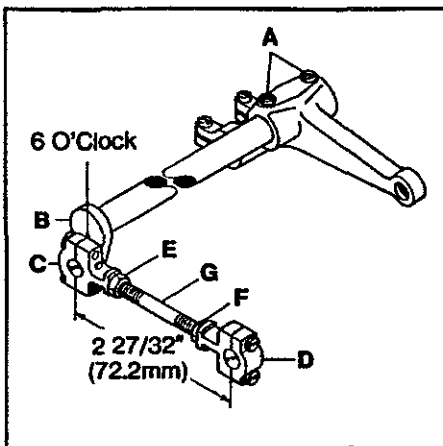

FIG. 27
Subtract dimension "A" from dimension "B" and divide by two. Add this number to dimension "A" to obtain "C". Set a caliper to the "C" dimension and turn the handwheel in operating direction until the height of the needle bar is at the "C" dimension. At this time the knife drive lever should be in the 6 o'clock position. If adjustment is necessary, loosen screws (A, Fig. 27) in the needle lever and reposition knife drive lever (B) to the 6 o'clock position. Tighten screws (A). The dimension between the centerline of right and left knife drive connection ball joints (C and D) must be $2 \frac{27}{32}$ " (72.2mm). Loosen left hand thread nut (E), right hand